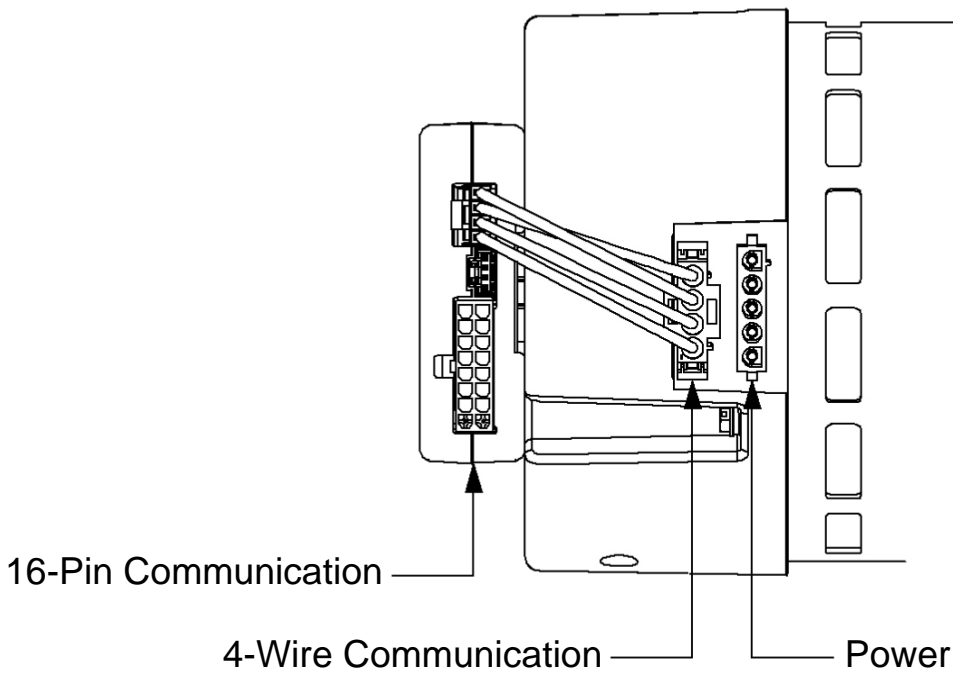
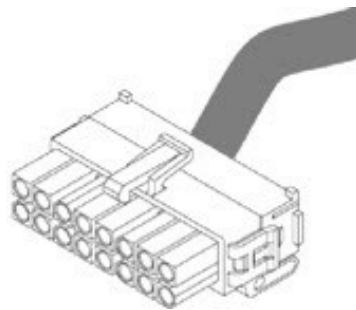

Figure 1
Figure 2
2. Disconnect the 16-Pin communication connector from the 16-Pin interface box [Figure 1].
3. Connect the 16-Pin cable connector of the UltraCheck-EZ[®] diagnostic tool [Fig. 2] to the 16-Pin communication connector on the 16-Pin interface box [Fig. 1].
11. Reconnect the four wire communication connector to the control unit connector [Figure 1].